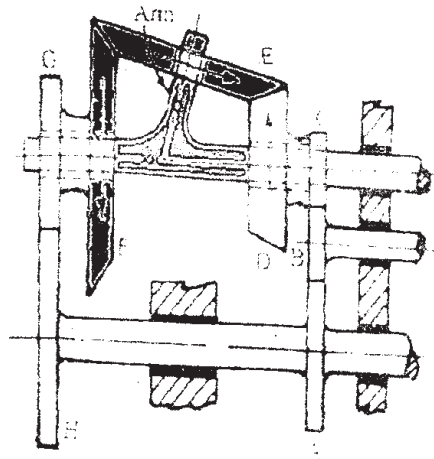

Fig. 3 Epi cyclic Gear Train
- Q3)** In the epicyclic train shown in Fig. 3, the shaft with the arm is an output shaft. If the shaft on whom gears A and H are rigidly mounted rotates at 1400 rev/mm CCW, determine the speed of the output shaft. [16]